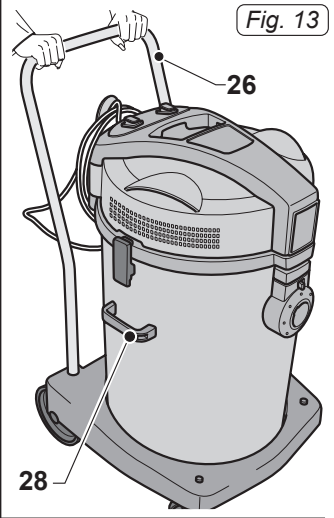
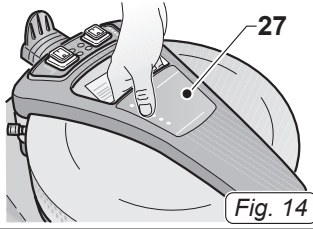

Fig. 13
Fig. 14
- The device is equipped with wheels and thus can be moved with the proper handles, or it can be pushed with the help of the handle (26 Fig.13)
- To lift it up insert your fingers under the dedicated handle (27 Fig.14) on the top of the cover of the single version motor or lift with the help of two people using the handles (28 Fig.13)